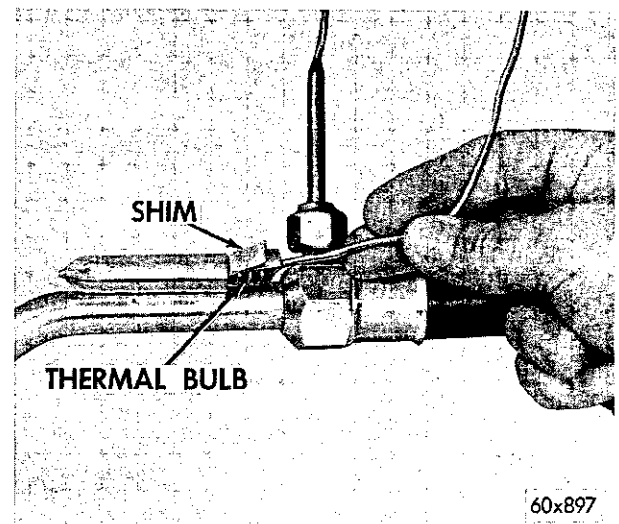

Fig. 47—Thermal Bulb Installed
(1) Remove the equalizer line from the evaporator suction line fitting.
(2) Disconnect the valve from the 3/8 inch inlet line and from the 1/2 inch outlet line. Use two flare wrenches to loosen each of these connections.
(3) Remove the grommet retainer and the rubber grommet from the evaporator engine-side housing. Carefully pull the thermal bulb (Fig. 47) and the thermal bulb wedging shims from the well located inside the evaporator housing.